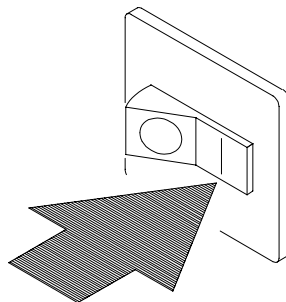

Figure 36. The Power Switch
2. Set the power switch to the ON position (Figure 36). The printer initializes and runs several self-tests. The messages “TESTING HARDWARE / PLEASE WAIT” and “DIAGNOSTICS / PASSED” will each display briefly. When the self-tests complete and the software has initialized successfully, the message “ONLINE / LG” appears on the message display.